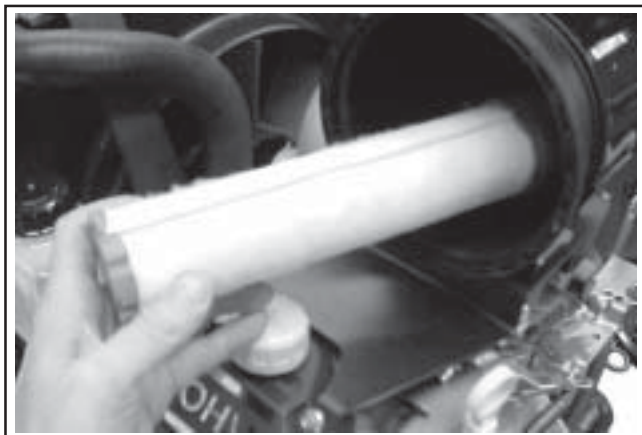

Figure 4-6. Removing Cylindrical Inner Element.
3. Check the condition of the inner safety element. It should be replaced whenever it appears dirty, typically every other time the main element is replaced. Before removing it from the housing, clean the area around the base of the inner element, so dirt does not get into the engine. See Figure 4-6.